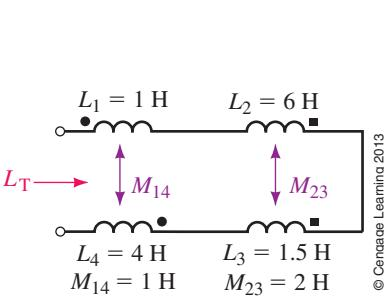

FIGURE 23-80
- 35. For Figure 23-80, determine L_T .